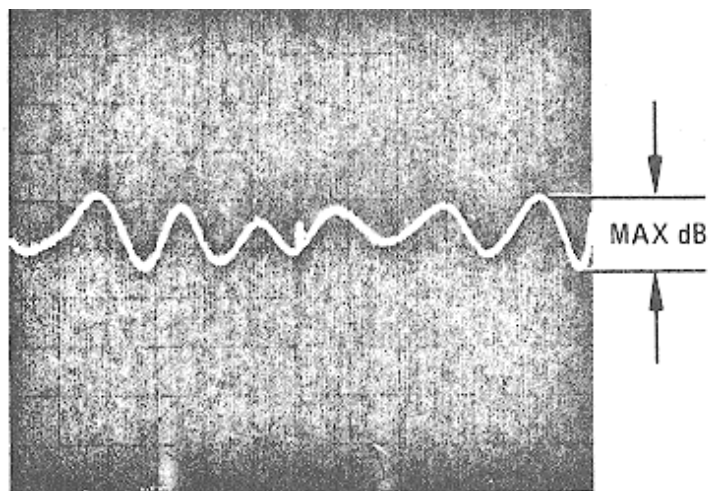

Figure 13. TEST Port Open/Short Ratio Magnitude >2 MHz
- (2) Measure the maximum peak-to-peak variation on the display (Figure 13) and record the results: